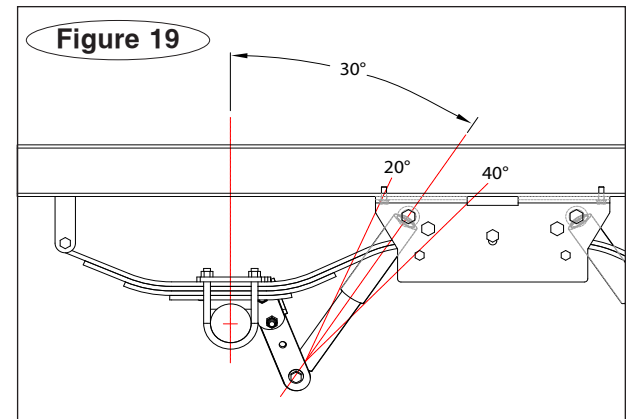

Figure 19
I. The final mounting location must be between 20 and 40 degrees (Figure 19).